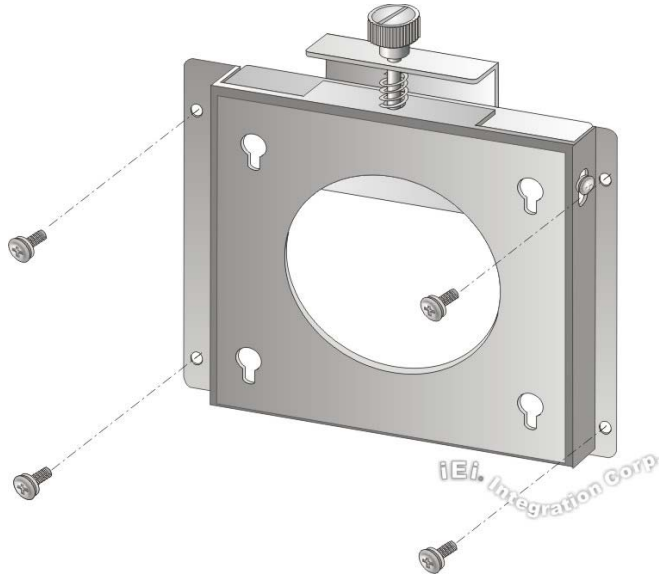

Figure 4-13: Wall-mounting Bracket
- Step 5:** Secure the mounting-bracket to the wall by inserting the retention screws into the four pilot holes and tightening them (Figure 4-13).